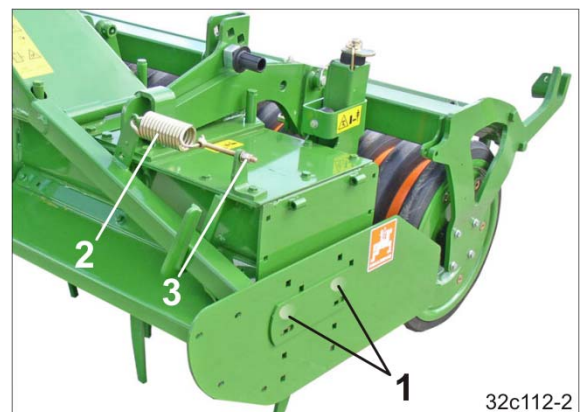

Fig. 119
The side panel is fastened with two round-head screws (Fig. 119/1) and can be adjusted vertically.
2. Adjust the tension of the spring (Fig. 119/2) by turning the nut (Fig. 119/3).